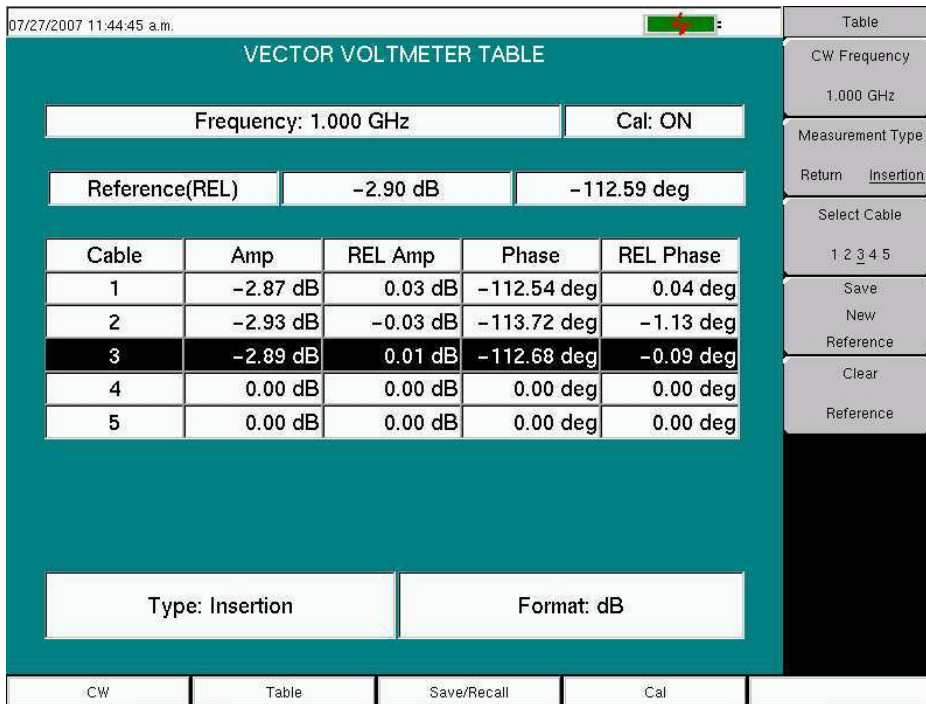

Figure 8-7. Vector Voltmeter Relative Measurement Table
7. As shown in Figure 8-7, the VNA Master saves the current measurement in a new reference window above the table and updates the REL Amp and REL Phase columns